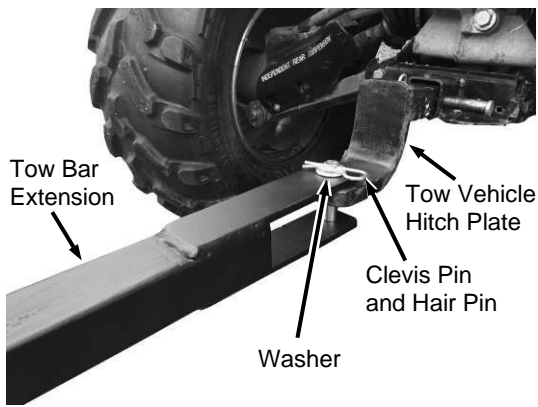

Figure 21
2. Align the Tow Hitch to the hole in the center of your Hitch Plate with the top portion of the Tow Hitch above the Hitch Plate and the bottom portion below (**Figure 21**).